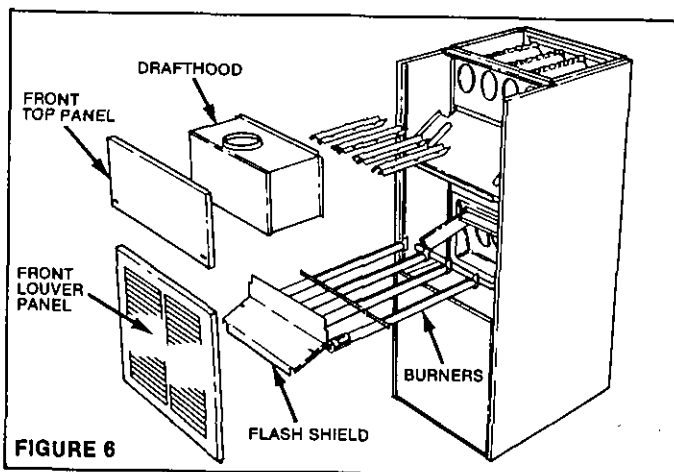

FIGURE 6
4. Remove two (2) screws holding the secondary air shield in place and set aside. Then remove air shield.
- B. Remove (2) screws from pilot bracket and remove pilot assembly from pouch.
6. Remove all the burners from the unit. This is accomplished by pulling back on the burner so that it compresses the spring that is located between the manifold and burner. Tilt the burner up into the heat exchanger tube. Then slide burner off the orifice and remove from the unit. See Figure 6.